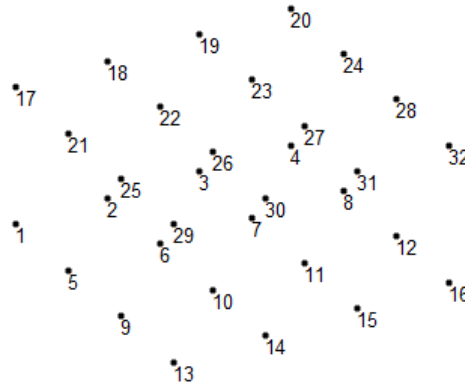

Figure 2-6 Nodes of the space frame structure
Step 3: Choose the **Save** button from the toolbar in the **STAAD Editor** window and then close the window; the nodes are generated. Press SHIFT+N to view the node numbers, refer to Figure 2-6.